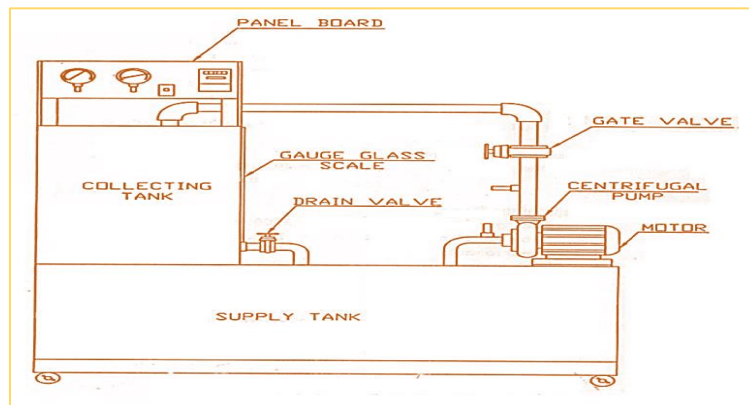

Figure 10: Centrifugal pump experiment setup
- Calculate the actual discharge, input power, output power, and calculate the efficiency of the centrifugal pump, using the experimental setup, shown in figure 10.